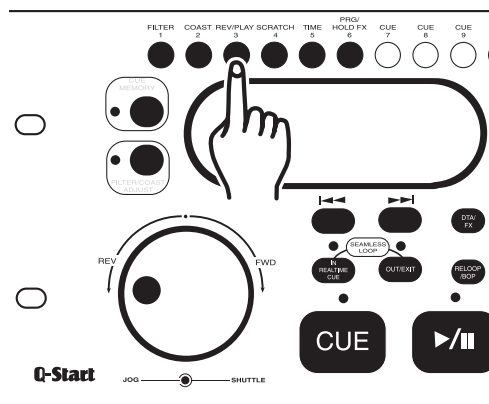

Figure 35
Reverse play allows you to play a track, loop, or sample backwards. This function is activated by pressing the REV/PLAY BUTTON (4) as in figure 35. This function will react differently to different playback modes: